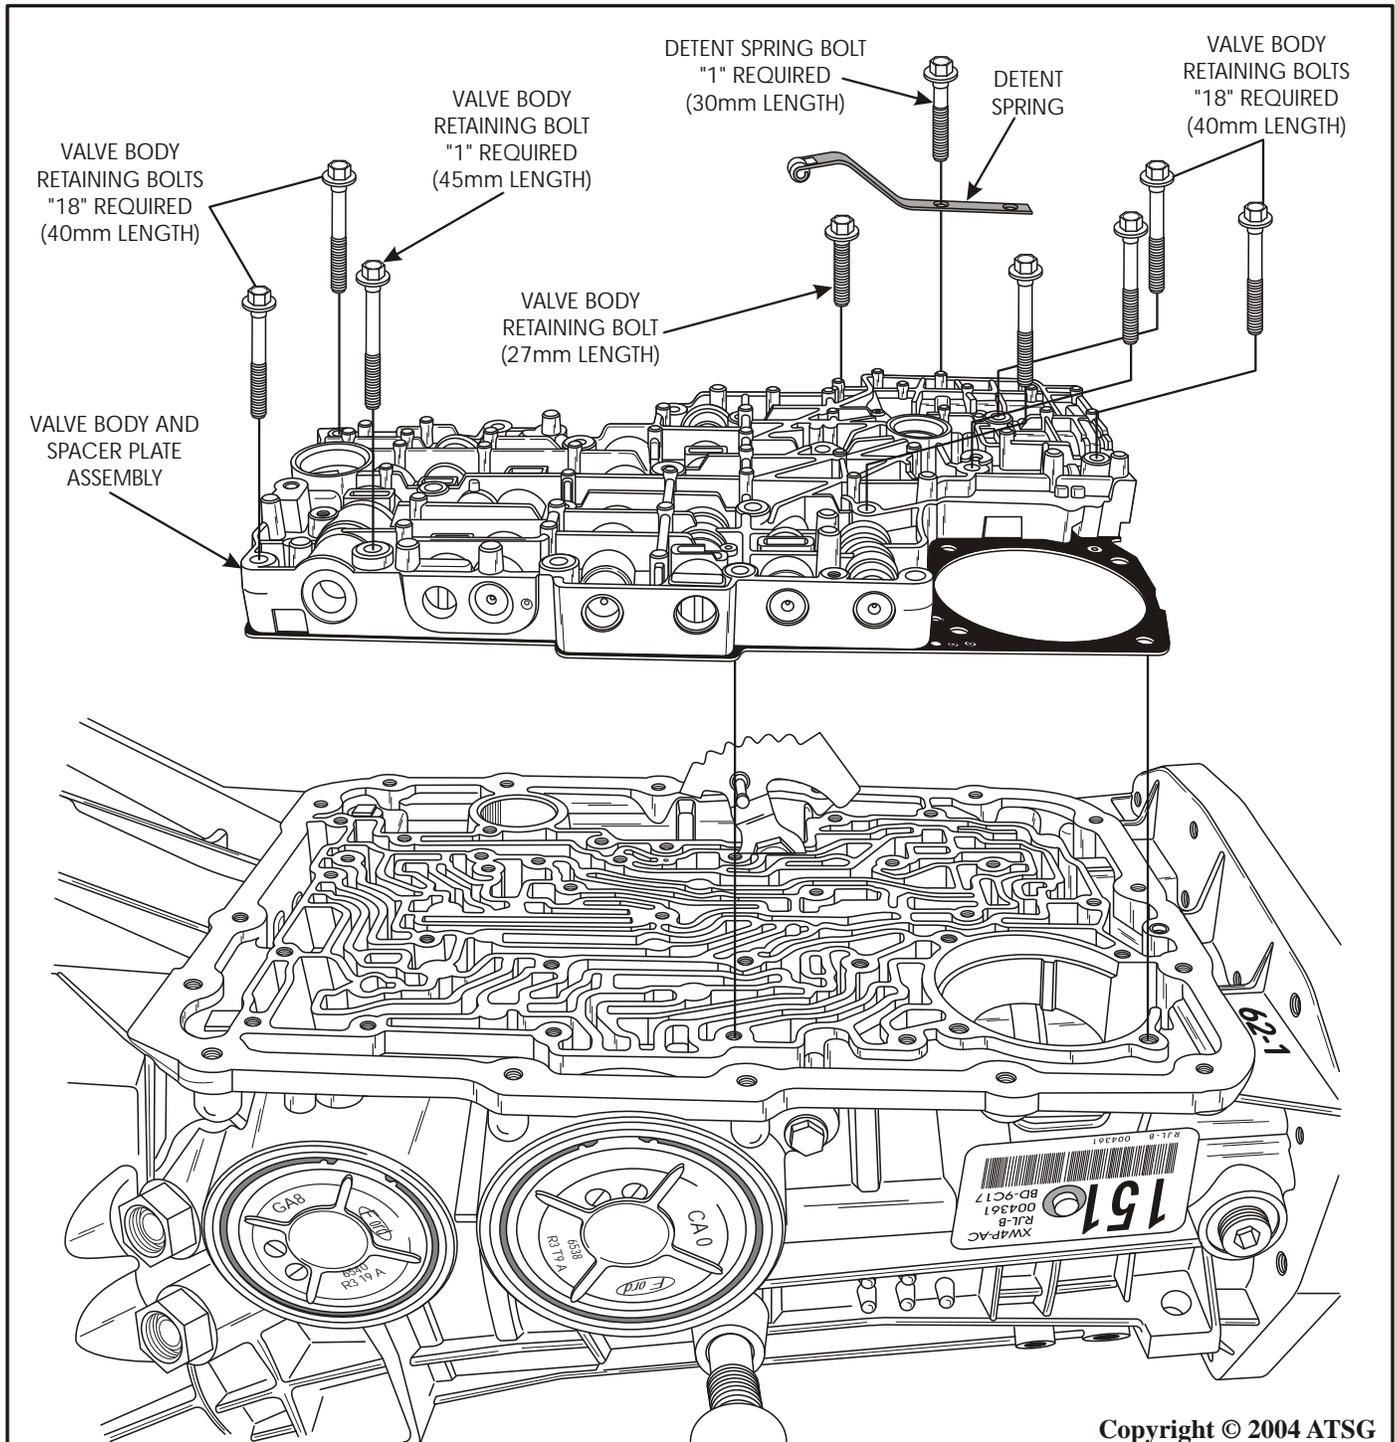

Figure 31
17. Remove the detent spring retaining bolt and the detent spring, as shown in Figure 31.
18. Remove the only 45mm in length valve body bolt, as shown in Figure 31, **and note location.**
19. Remove the only 27mm in length valve body bolt, as shown in Figure 31, **and note location.**
20. Remove the remaining 18 valve body retaining bolts as shown in Figure 31, and they are all 40mm in length.
21. Remove valve body and spacer plate assembly, as shown in Figure 31, and set aside for the component rebuild section.